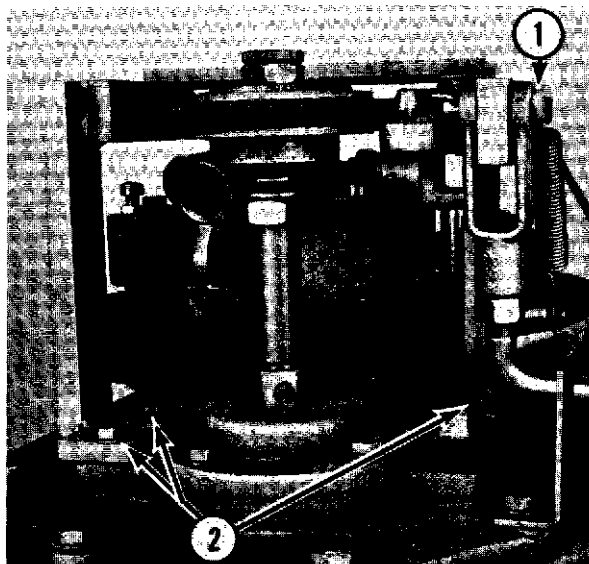

Fig. 9-2
- (1) With the motor not running, move the clutch lever to the "RUN" position. (Engage the clutch.)
- (2) Disconnect the clevis by removing the clevis pin (1, Fig. 9-2).
- (3) Remove the four bolts (2, Fig. 9-2) that hold the clutch support bracket.
- (4) Swing the clutch operating mechanism out of the way.